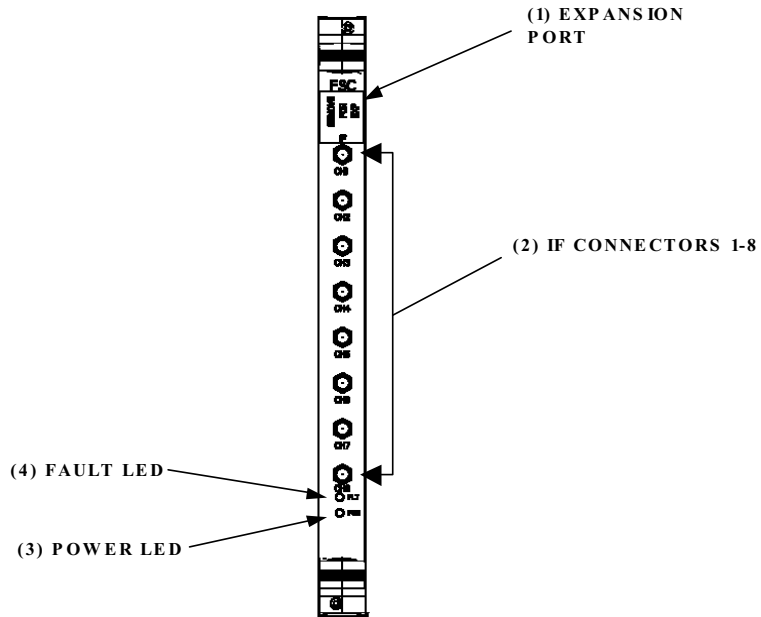

Figure 2-17. Forward Simulcast Card
The Forward Simulcast Card (FSC), shown in Figure 2-17, converts the IF signals from the FBHDC to Digitized IF (DIF) format. There are eight (8) separate analog-to-digital conversion circuits on one (1) FSC. This module is specified at one per sector per tenant per 8 RANs. The references for the FSC are shown in Table 2-11.